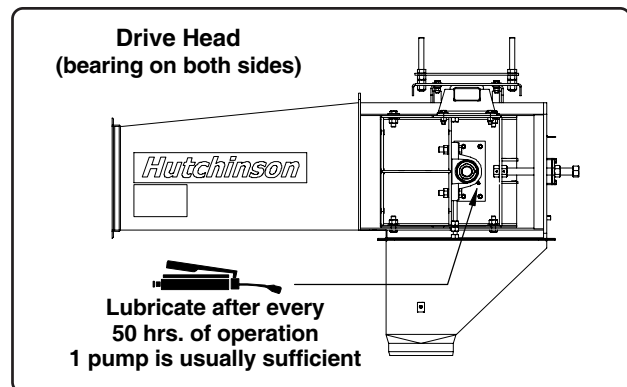
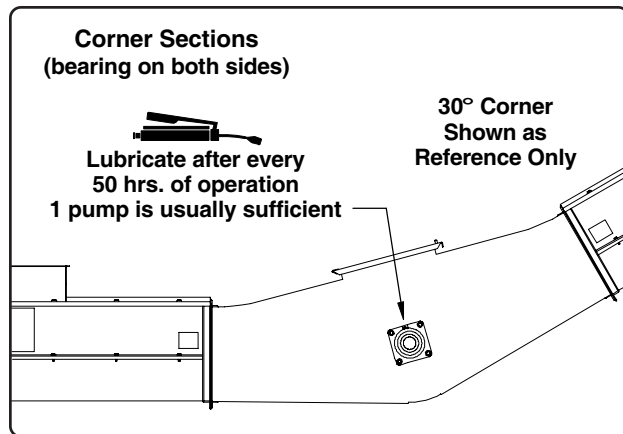
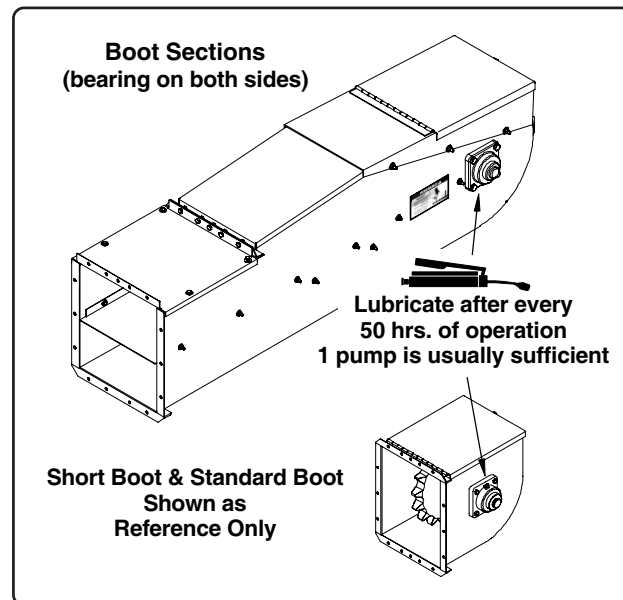

Fig. 4
Fig. 5
Fig. 6
These bearings are self-aligning, sealed ball bearings which have been packed at the factory. They should be lubricated at approximately **fifty (50) hour intervals** with an SAE multipurpose type grease (See Fig. 4, Fig. 5 & Fig. 6). **Typically only 1 pump is sufficient, Do Not over grease as this may damage the seals on the bearings.**